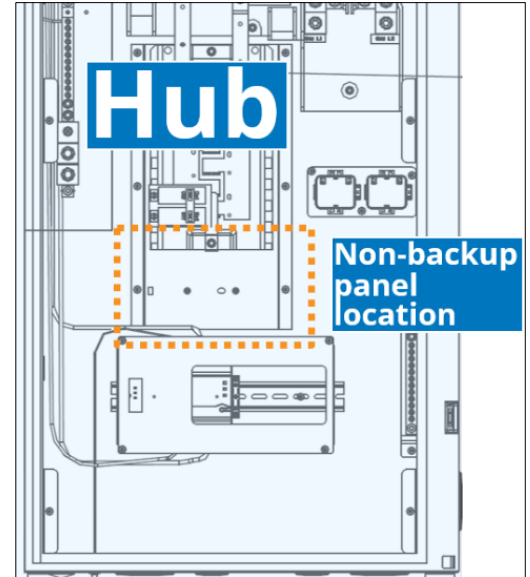

Figure 16: Location of non-backup panel in Hub
If a Hub-integrated Charger non-backup panel is desired, then you must install a non-backup panel (load center) *in the Hub* in order to enable the integration of the Charger. Use only an Eaton 24INT125B-1 or equivalent. See Figure 16 and Figure 29 as well.
1. Position the housing block (the smaller black piece) into the hole at the left side of the space below the central breaker area (Figure 16).